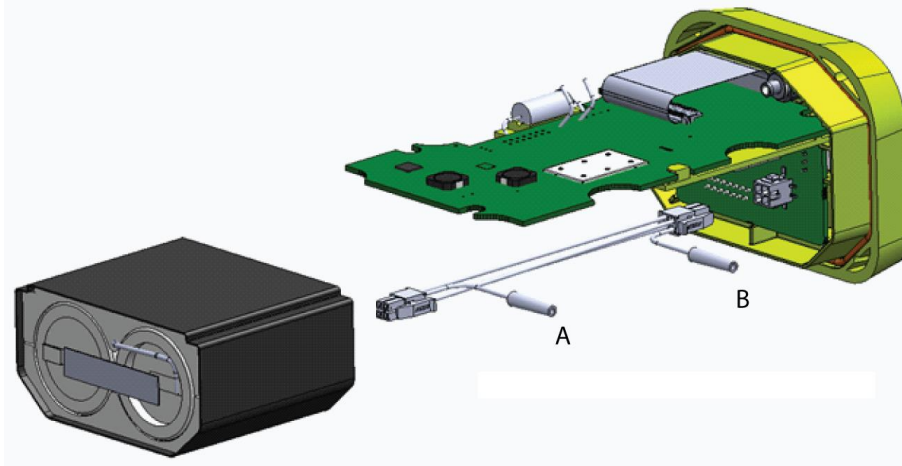

Figure 7 Current Draw Test Setup
- 3) Install test fixture 8104 in the power circuit in series between the battery pack connector and the ELT connector (see Figure 7 Current Draw Test Setup).